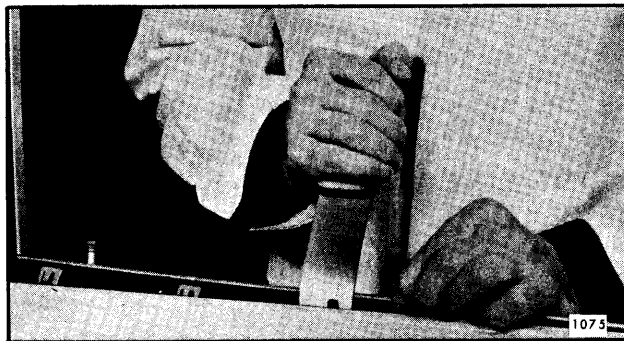

Fig. 6-7—Clip Retained Glass Run Channel Inner Strip Assembly Removal
- b. Using a flat-bladed tool that is slotted to fit over tang of clip, disengage clips from slots in door panel return flange as shown in Figure 6-7.